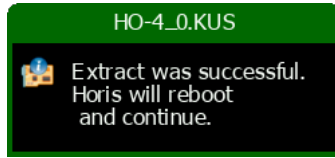

Figure 22: Message shown after the extract has been completed.
6. Once the extraction was complete, Horis displays a message as shown in figure 22 and reboots. During the boot, screens starts flashing indicating that Horis binary is being copied. At the end, an information window is shown indicating success of the first part.